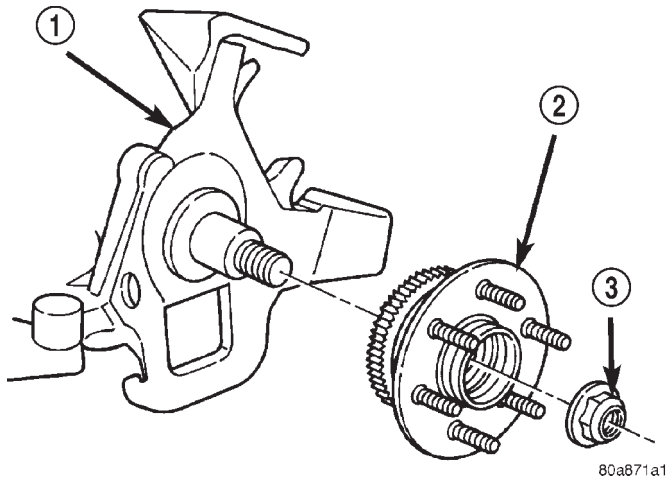

Fig. 10 Hub/Bearing
- (1) Raise and support vehicle.
- (2) Remove wheel and tire assembly.
- (3) Remove brake caliper, rotor, and ABS wheel speed sensor if equipped, refer to Group 5 Brakes.
- (4) Remove hub/bearing spindle nut and discard nut (Fig. 10).